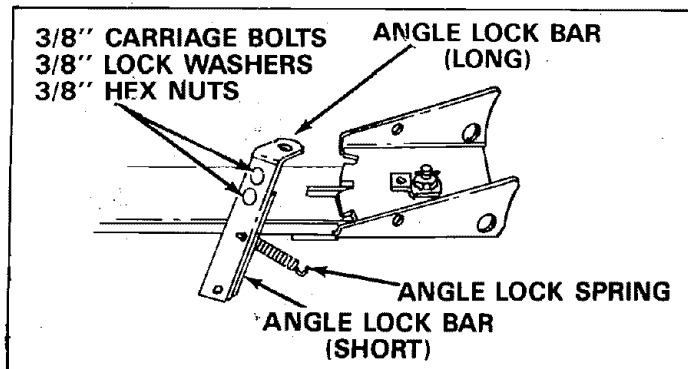

FIGURE 1
1. Assemble (long) angle lock bar, and (short) angle lock bar together using two 3/8" x 1" carriage bolts, 3/8" lock washers and 3/8" hex nuts. **Do Not Tighten.** See figure 1.
2. Assemble angle lock spring through angle lock bars positioning end hook as shown. See figures 1 and 2.
3. Assemble hook of angle lock spring into hole of bracket under pivot bolt. Pull lock bars up to extend spring just enough to allow assembly of angle lock bars down through slot in pivot bracket and channel. See figures 1 and 2.